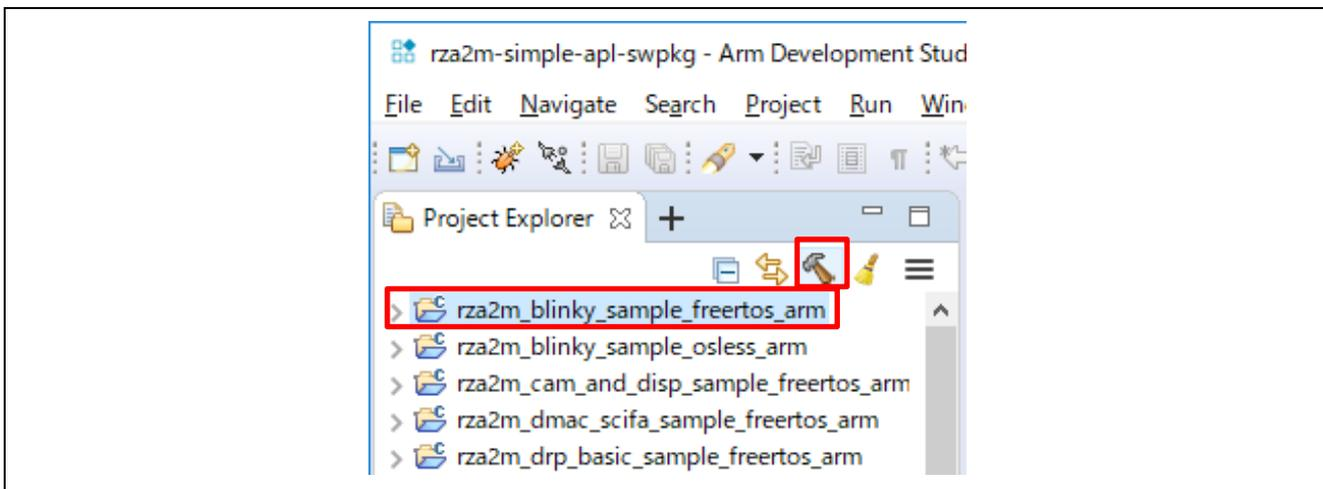

Figure 3-7 Build the target project
- Select your target project by left clicking on it, then click to build button (hammer icon). This is shown in Figure 3-7.